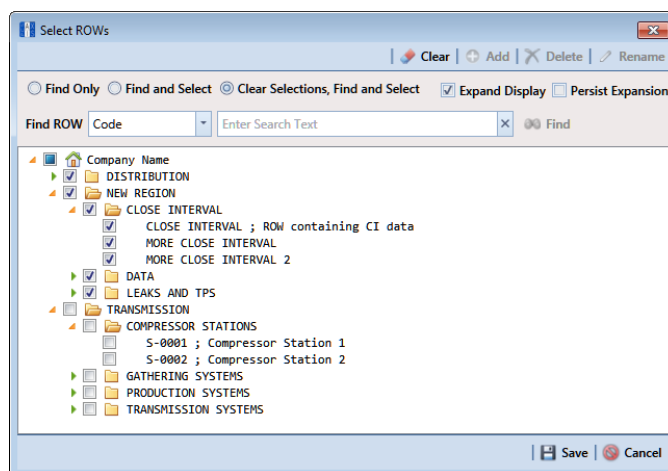

Figure 8-52. Select ROWs
- 1 Select one or more pipeline segments in the *Select ROWs* window (Figure 8-52). Click  **Save** to close the window.